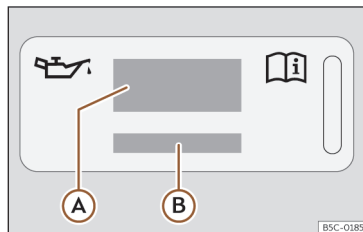
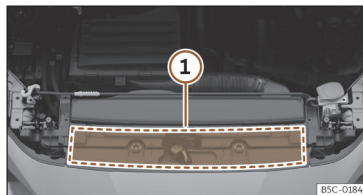

Fig. 197 In the engine compartment: engine oil label
Fig. 198 In the engine compartment: area where the engine oil label is located
Key to the >>> **Fig. 197:**
If the engine oil has to be topped up, use one of the oils shown on the label >>> **Fig. 197**. The label with the prescribed standard is located at the front of the engine compartment >>> **Fig. 198** ①. If you use the recommended engine oil, you can top up the oil as often as necessary.